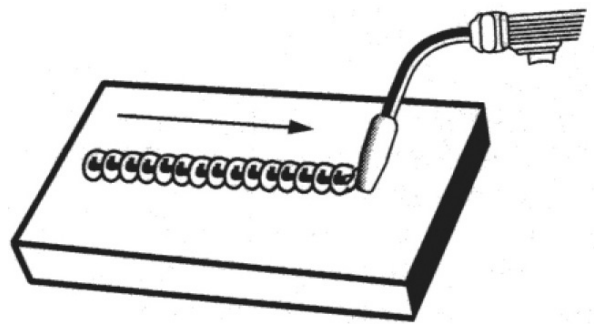

Figure 13. Stringer Bead
1. The **STRINGER BEAD** (Figure 13) is formed by traveling with the gun in a straight line while keeping the wire and nozzle centered over the weld joint. This is the easiest type of bead to make.